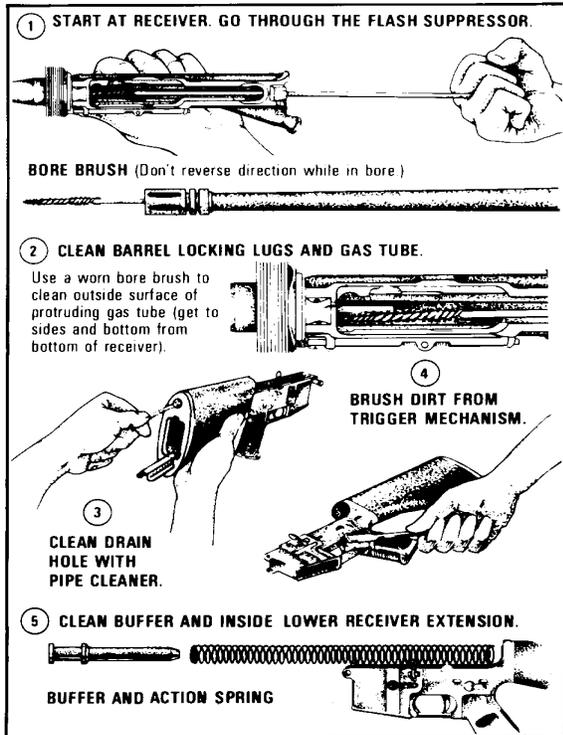

Figure 10-21. Cleaning the Receivers
- a. Clean the upper and lower receiver group using CLP to remove powder fouling in the upper receiver (figure 10-21).